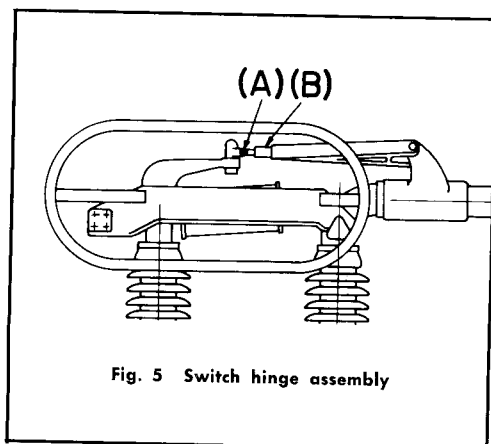

Fig. 5 Switch hinge assembly
After making sure that offset bearing stops, stops at switch base (when used) and operating mechanism stops are all adjusted to permit it, close all blades completely so that blade end is twisted into contact. If penetration is not deep enough, move blades to a position near open and (see Fig. 5) remove Connecting Pin (A) and screw Clevis (B) OUT 1/2 turn then reconnect and try it.